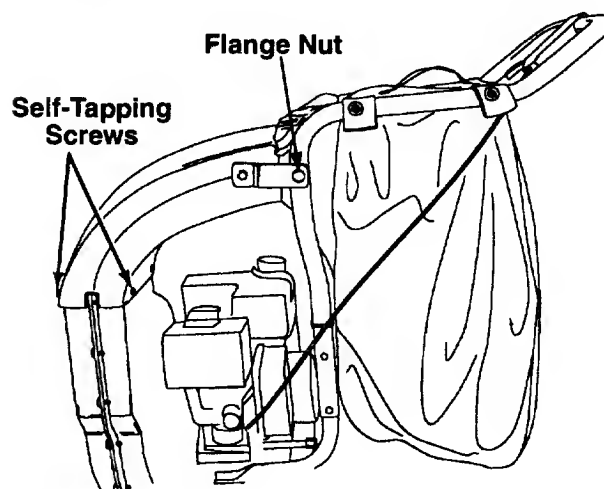

FIGURE 14.
5. Remove the four self-tapping screws that secure the discharge chute to the housing. See figure 14.
6. Remove the flange nut which secures the support bracket to the handle. See figure 14. Pivot support bracket up and remove discharge chute from unit.